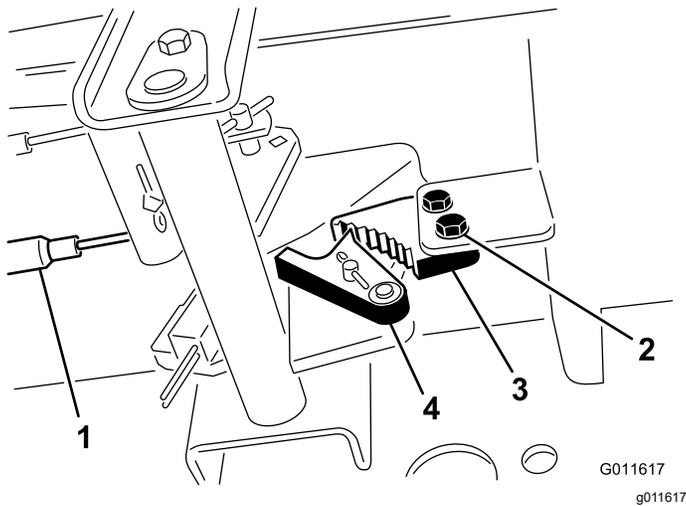

Figure 47
- Loosen the 2 screws securing the parking-brake pawl to the frame (Figure 47).
2. Press the parking brake pedal forward until the brake detent completely engages on the brake pawl (Figure 47).